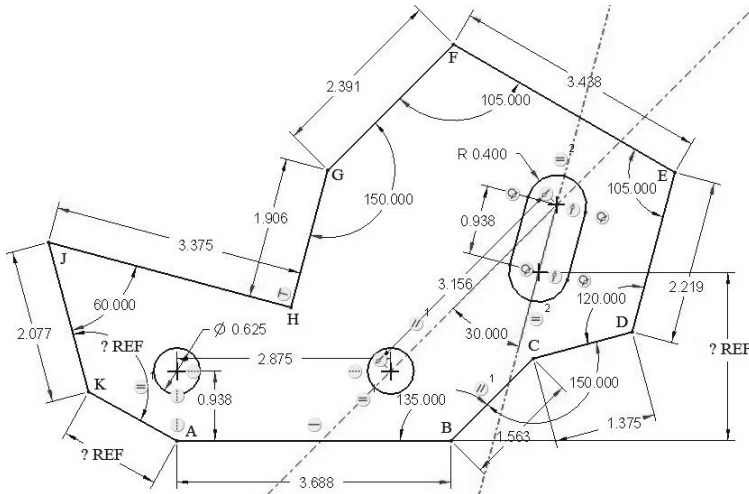

Figure 3-70 Problem 1—Shear Plate
- 3.1 Draw "shear_plate" (Figure 3-70). **Design Intent**—The left hole must be directly above the lower left corner at point A at a height of 15/16 inches. The right hole must be 2.875 inches from the left hole and at the same height. Draw a centerline through the right hole and parallel to line BC. The slot must be oriented 30 degrees from the indicated centerline. What are the length of line KA, height of arc center L, and the angle at K? (>File>Options>Sketcher, change to 3-decimal places.) Hint: Start at A and draw the general shape until you get to K. Do not draw line KA yet. Dimension the shape according to the design intent, then add line KA, and finally add the three reference dimensions.